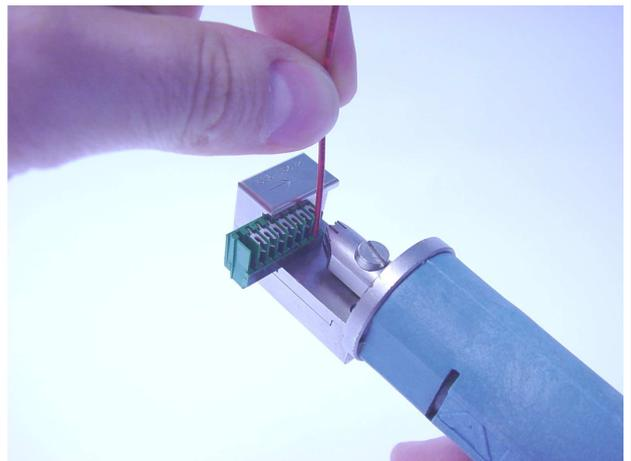

Figure 3
2. Now a stranded wire, justified between the retainers, is positioned in front of the contact cavity. Thereby the base of the housing conduces as stop (see figure 3).